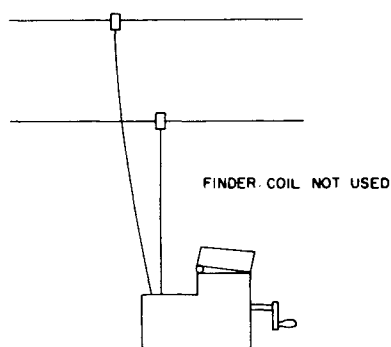

Figure 14. Connection for insulation - resistance test.
- Connect the test clips to the two wires being tested (figure 14). Attach only the saw-tooth portion of the test clip to the wire. DO NOT pierce the insulation with the needle point.